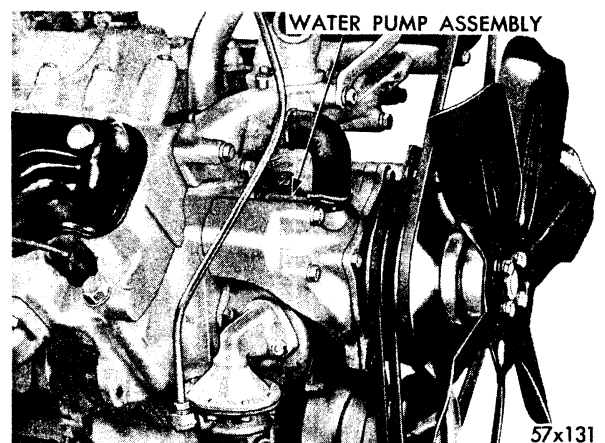

Fig. 7—Water Pump Installed (Spitfire Engine)
d. Installation on Car (Fig. 7)